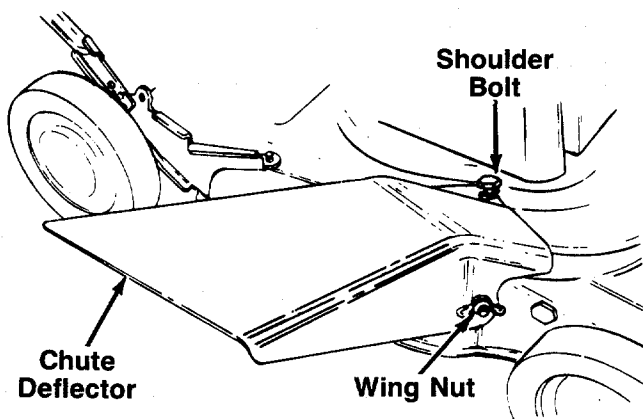
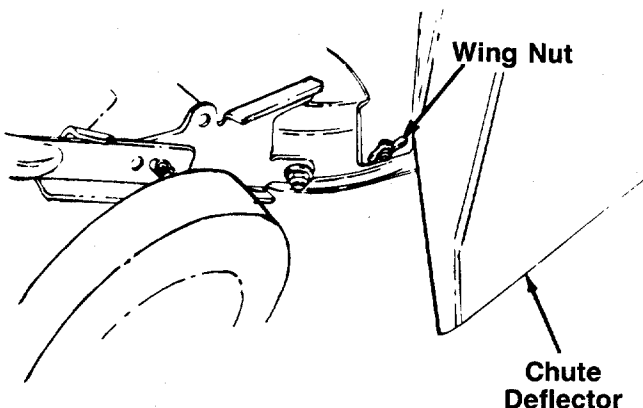

FIGURE 15.
FIGURE 16.
2. Attach the side chute deflector by first placing it over the rear bolt in the side of the deck. Then slide the notch in the top of the deflector around the shoulder bolt on top of the deck. Slide the notch in the side of the deflector around the front bolt in the side of the deck. See figure 15.
3. Secure the front of the chute deflector to the bolt on the side of the deck with one wing nut. See figure 15. Secure the back of the chute deflector in the same manner. See figure 16.